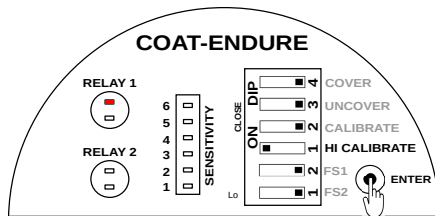

Figure 15: Setting Calibration
- Press and hold ENTER key, the STATUS LED for RELAY 1 will glow in RED color as shown in Figure 15.